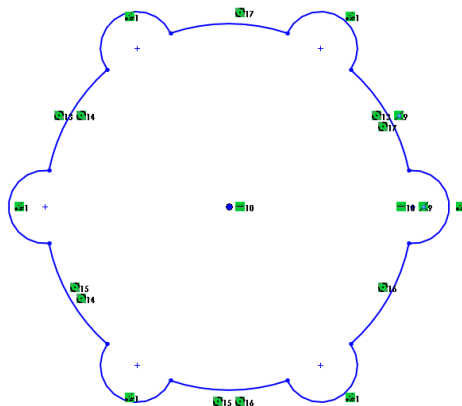

Figure 3-76 Outer loop of the sketch
- e. Use the **Circular Sketch Pattern** tool to create a circular pattern of circles in the outer loop, refer to Figure 3-76.
19. Choose **OK** after trimming. The outer loop of the sketch is created, as shown in Figure 3-76.